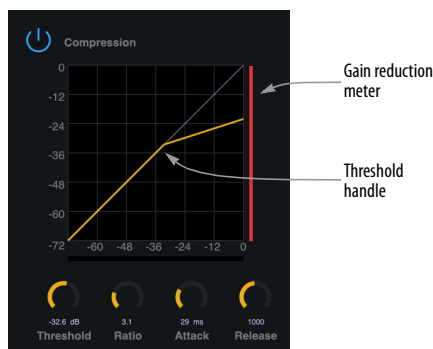

Figure 6-2: The Compressor.
All analog input channels (items 1 and 2 on page 34) provide a *Compressor* (Figure 6-2).
The *Compressor* lowers the level of the input when amplitude of the signal is above the Threshold. The amount of attenuation is determined by the *Ratio* and the input level. For example, if the input is 6 dB above the *Threshold* and the Ratio is 3:1, the compressor will attenuate the signal to 2 dB above the Threshold. When the input level goes above the threshold, the attenuation is added gradually to reduce distortion. The rate at which the attenuation is added is determined by the *Attack* parameter. Likewise, when the input level falls below the Threshold, the attenuation is removed gradually. The rate at which the attenuation is removed is determined by the *Release* parameter. Long Release times may cause the audio to drop out briefly when a soft passage follows a loud passage. Short Release times may cause the attenuation to “pump”, a term used to describe the sound of the compressor when the average input level quickly fluctuates above and below the Threshold. These issues can be addressed by adjusting the parameters. The *Gain reduction meter* (Figure 6-2) displays the attenuation applied by the compressor.